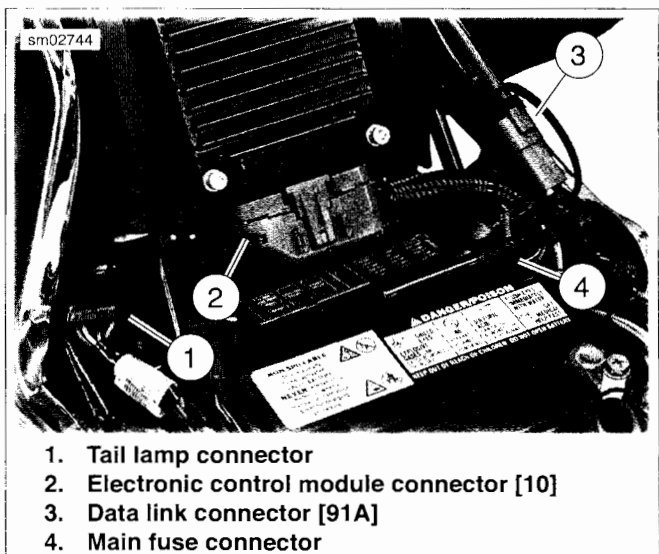

Figure 7-87. Connectors Under Seat
5. See Figure 7-87. Attach connectors under seat.